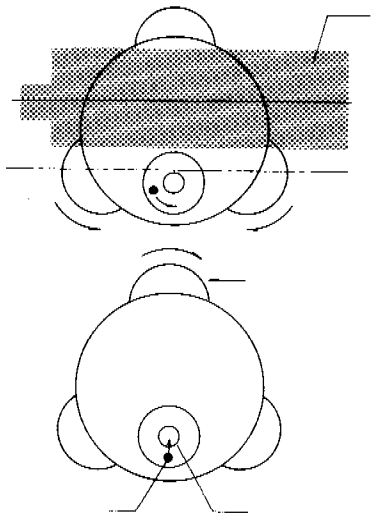

Fig. 5
Telescope Leveling screw Bubble Setting circle (A) (B) **Fig. 5 Circular level**